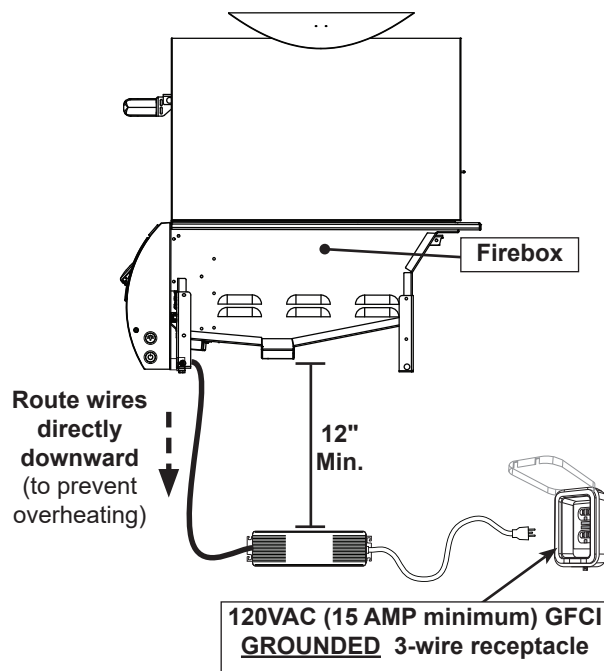

Fig. 27-2 Mount power supply
1. Ensure the wire harness extension is routed directly downward. This will prevent overheating. **DO NOT** route the harness below the unit firebox. See Fig. 27-2.
- located at least **12"** below the bottom of the unit (see Fig. 27-2)
3. Connect the power cord to a **120VAC (15AMP minimum) GFCI GROUNDED three-wire receptacle** (see Fig. 27-2). The GFCI receptacle must be a WEATHER-PROOF IN-USE COVERED RECEPTACLE.